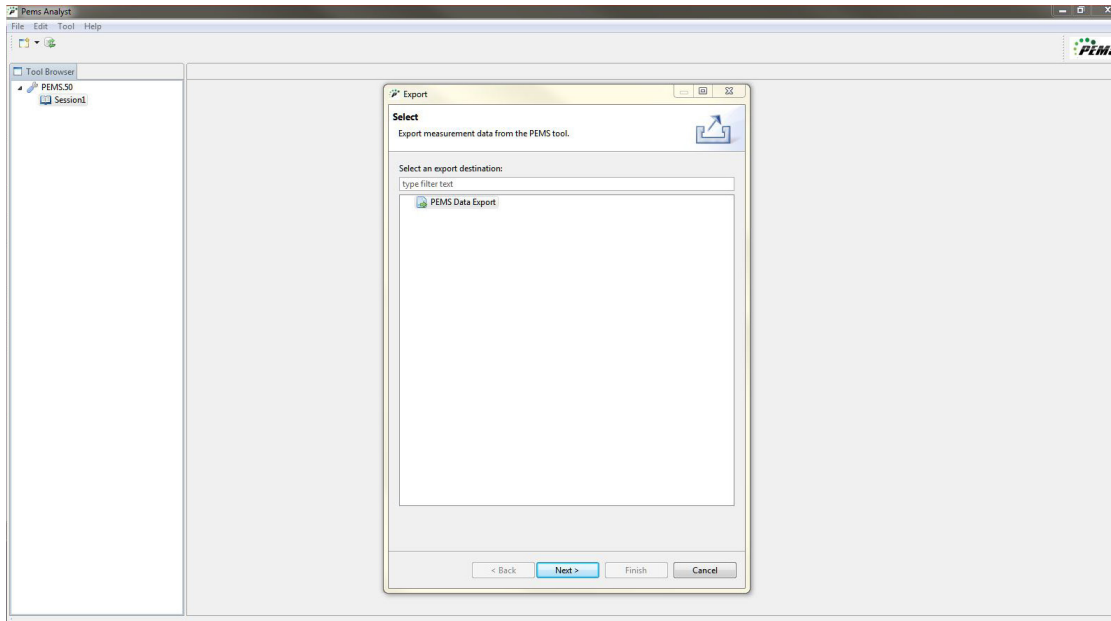

Figure 4-5 - Export Data
3. Select File → Export, or right-click the session and select Export. Select PEMS Data Export. Click Next to proceed to the next window. See Figure 4-5.